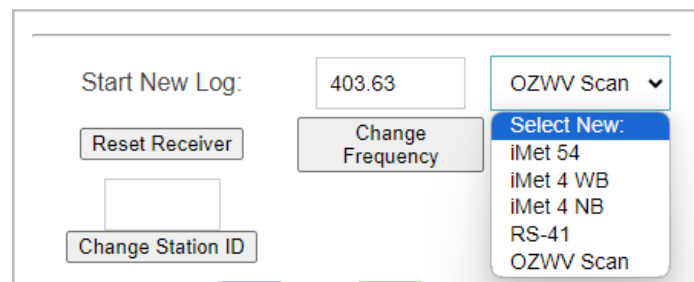

Fig. 11. Demodulation Options
- 5) **If using the web interface:** To change the radiosonde demodulator, select the dropdown menu seen in Figure 11 and select the desired radiosonde. Press the *Change Demod* button to send the command to the Raspberry Pi and wait up to 10 seconds for the interface to update. To change the radiosonde frequency, type in the desired frequency or use the arrows on the right side of the text box above the *Change Frequency* button. This is typically in multiples of 0.5 MHz for iMet-4s and 1 MHz for iMet-54s. Once the desired frequency is entered into the text box, click the *Change Frequency* button and wait up to 10 seconds for the interface to update. **Note: The controls section of the web interface updates the frequency text box every 10 seconds when it gets a debug packet from the RPi. This update may override any changes made to the frequency text box prior to pressing the Change Frequency button. Always check the OLED or the FREQUENCY line on the web interface to verify the current frequency setting.**